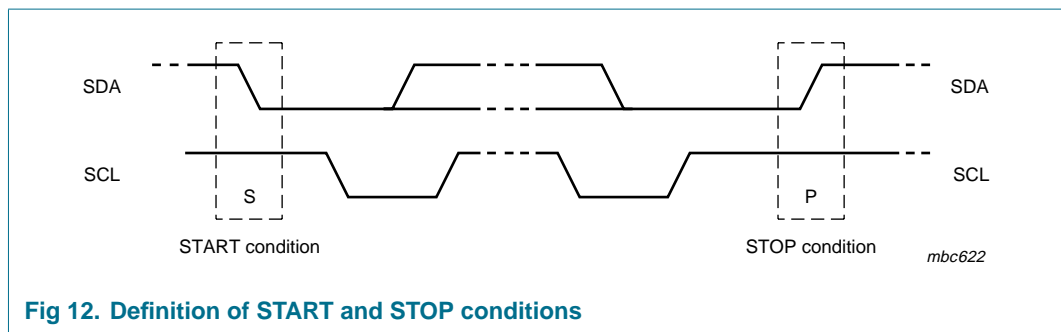

Fig 12. Definition of START and STOP conditions
Both data and clock lines remain HIGH when the bus is not busy. A HIGH-to-LOW transition of the data line while the clock is HIGH is defined as the START condition (S). A LOW-to-HIGH transition of the data line while the clock is HIGH is defined as the STOP condition (P), (see Figure 12).